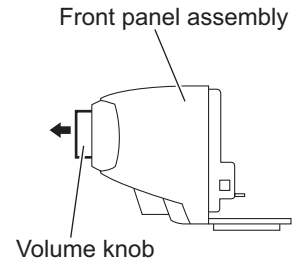

Fig.3
### 3.2.5 Removing the front board (See Figs. 3 and 4)
- (1) From the front side of the front panel assembly, pull out the volume knob in the direction of the arrow. (See Fig. 3.)